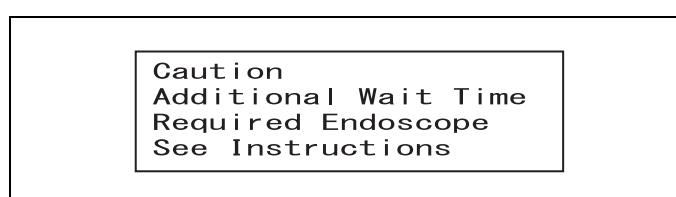

Figure 5.15
- With some endoscope models (Additional Wait Time Scopes = AWT-Scopes), short beeps are generated and the monitor displays the screen as shown in Figure 5.15 when the scope ID recognition is performed. When an AWT scope is used, do not proceed to the automated leakage test until 9 minutes or more have elapsed after withdrawal of the endoscope from the patient body. Otherwise, the test results may become inaccurate due to the temperature change. For the mode of automatic leak test of the AWT-Scope, select the Immediate Mode if the time elapsed from the endoscope withdrawal is less than 27 minutes or the Standard Mode when it is 27 minutes or more.